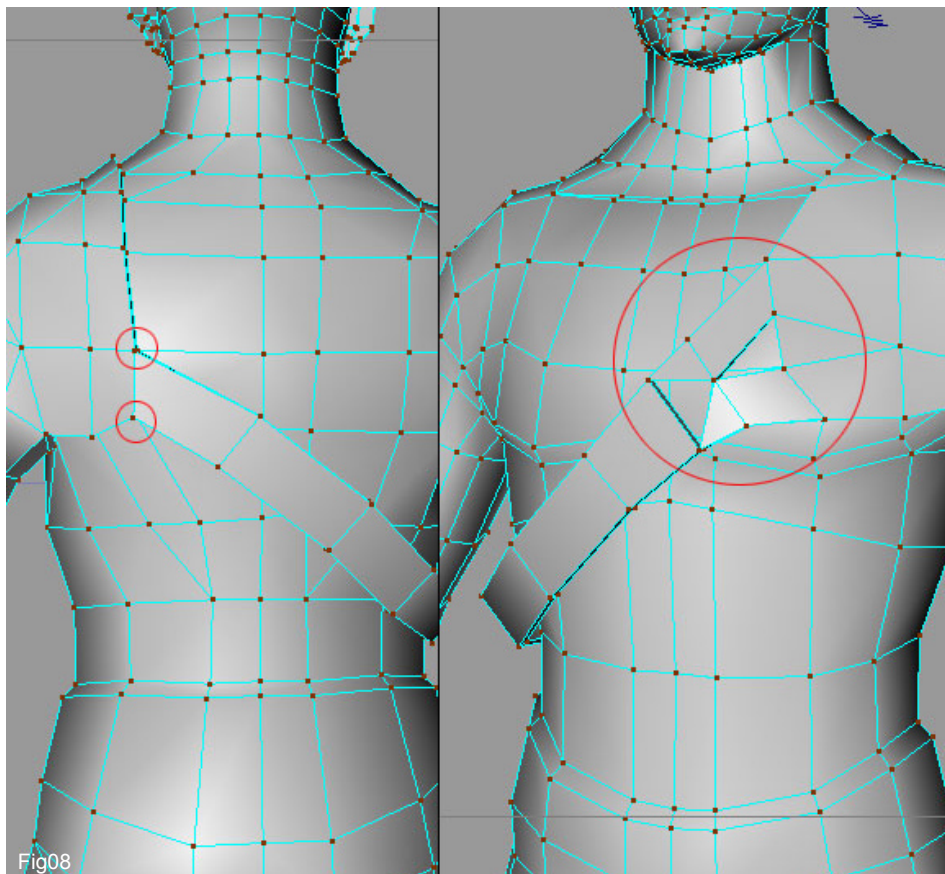

Fig08
8. Once you finished to adjust the position of verts make the Sweep NURBS object editable. Then connect the strap to the body and then weld the verts like shown in Fig08. For the front do the same shape as seen on the right of figure.